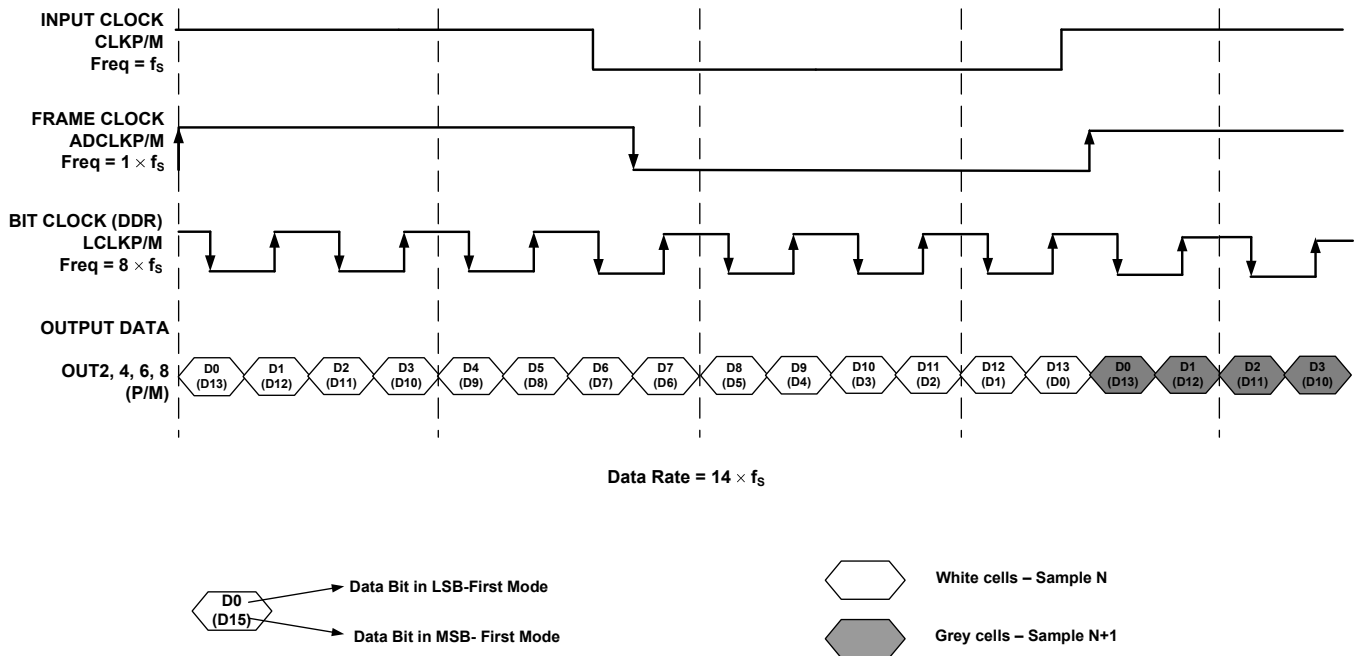
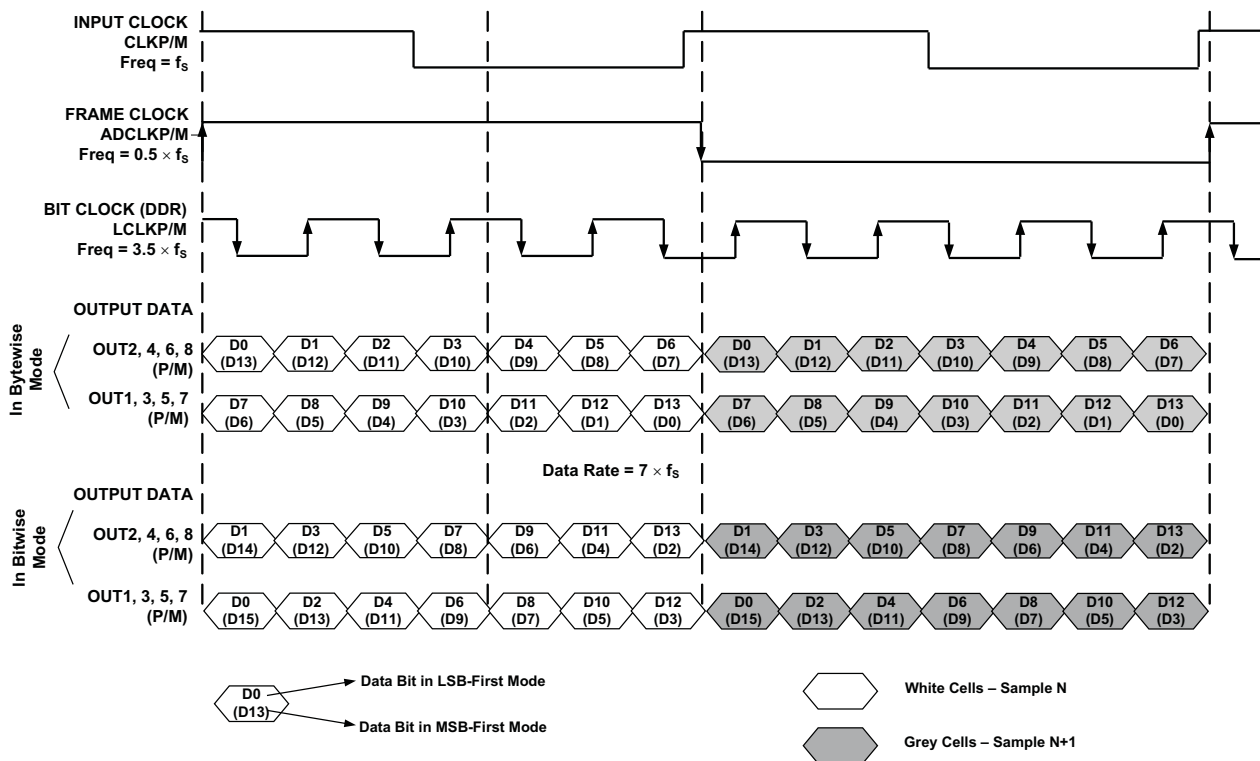

Figure 68. LVDS Output Interface, 1-Wire, 14x Serialization
Figure 69. LVDS Output Interface, 2-Wire, 7x Serialization
5. 2-wire, 7× serialization with DDR bit clock and 0.5× frame clock (14-bit ADC mode, Figure 68 and Figure 69)